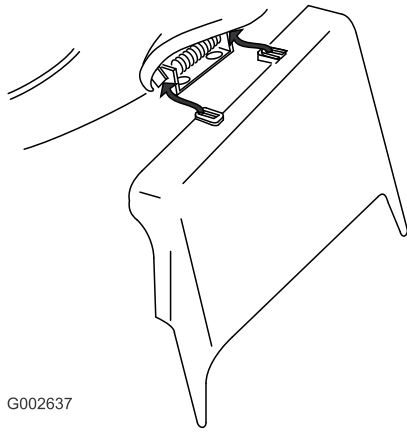

Figure 32
3. Install the side-discharge chute and close the door onto the chute (Figure 32).